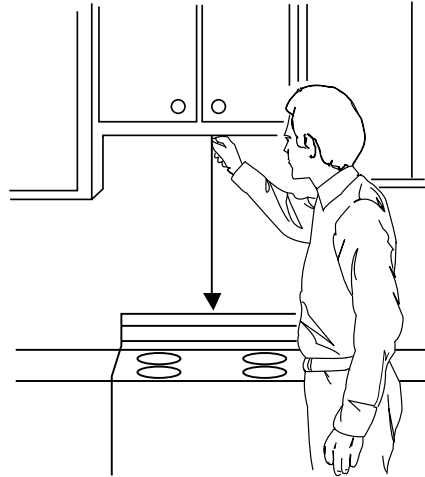

Figure 24
1. Using a plumb line and (metal) measuring tape, find and mark the vertical center line on the back wall, as in Figure 24.
NOTE: Be sure the minimum width is 30 inches and the distance from the top of the wall template to the range or counter top is at least 30 inches. See Figure 24.